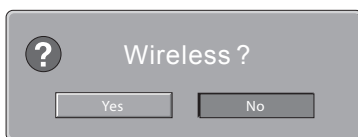

Figure 22
4. Press the Navigation ►RIGHT push-button and the On-Screen Display changes to show a window. Refer to figure 22.